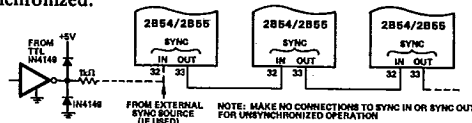

Figure 7. Synchronization
32) terminal of the adjacent 2B54/2B55 (Figure 7). The first of a group of modules may be synchronized to an external source via the SYNC IN pin. To minimize noise pickup, sync wiring should be separated from analog signal runs.